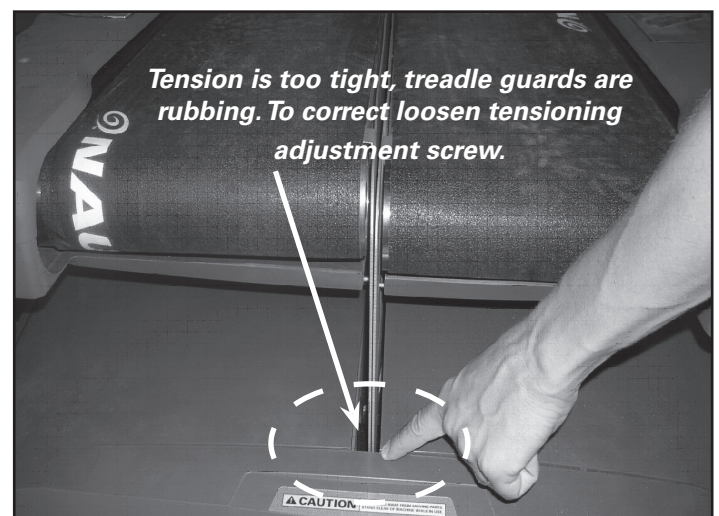

Figure 3
7.1-1: Tension is correct when the gap between the treadles is even and centered. See Figure 3 for an example of INCORRECT tension.